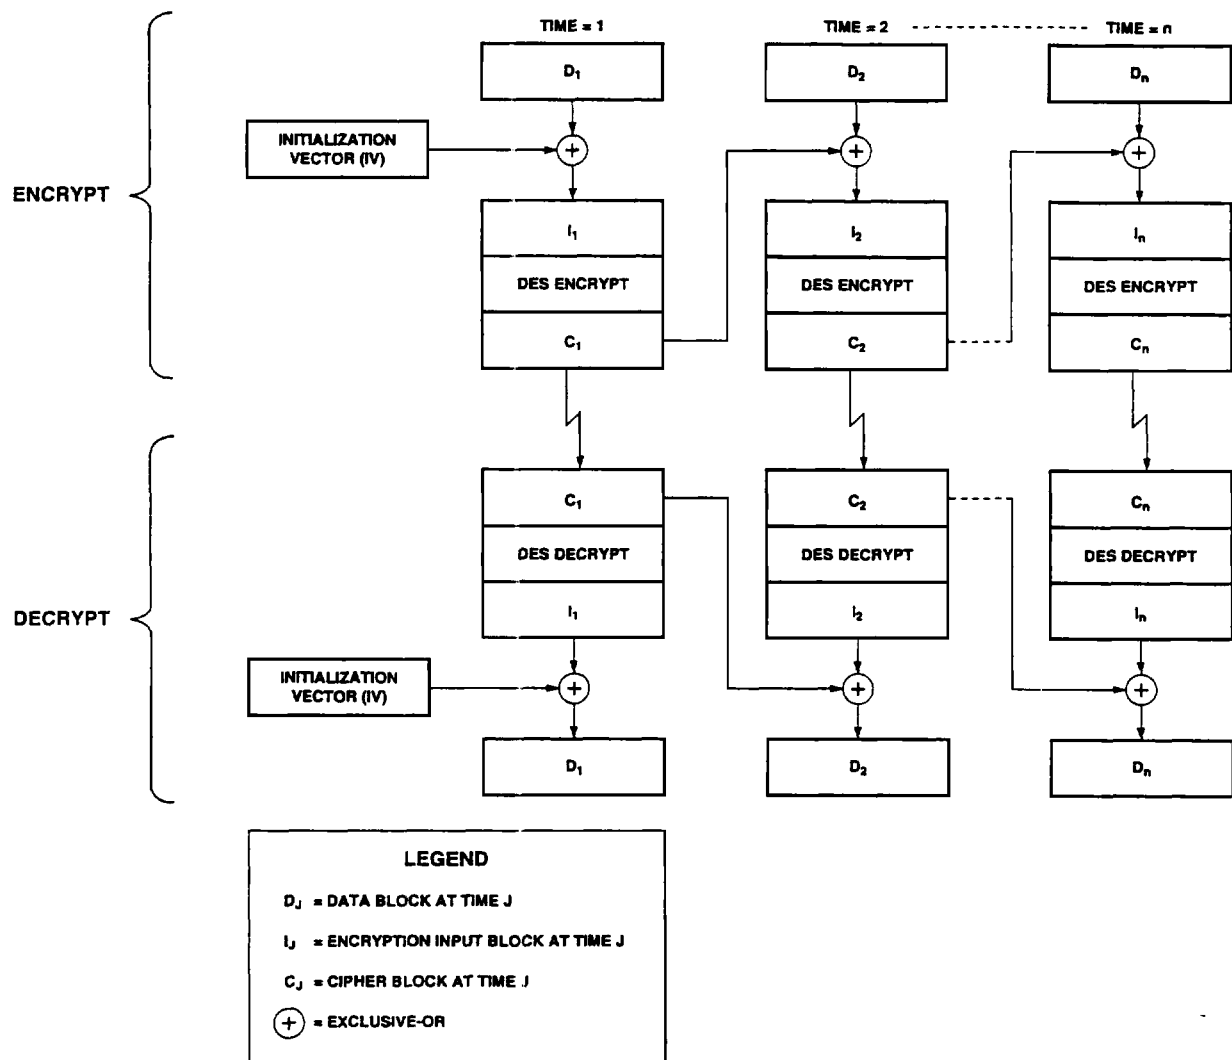

Figure 10 : Cipher Block Chaining (CBC) Mode
The Cipher Block Chaining mode also operates on 64 bit data blocks, but preprocesses the information before passing it to the DES algorithm. An input data block is first EXORed with a 64 bit *Initial Vector (IV)*, then processed by the DES algorithm. The resulting ciphered-output block is loaded into the IV Register, to be EXORed with the next input block. This chaining of cipher text blocks provides different outputs for identical input blocks. It also gives an error extension characteristic which protects against fraudulent data insertion, deletion or alteration in a block sequence (see Figure 10). A one-bit error in the input text block, the key or the *Initial Vector* causes an average error rate of 50% in all subsequent output blocks. Thus, the CBC mode is far better suited to high-speed data communications applications.